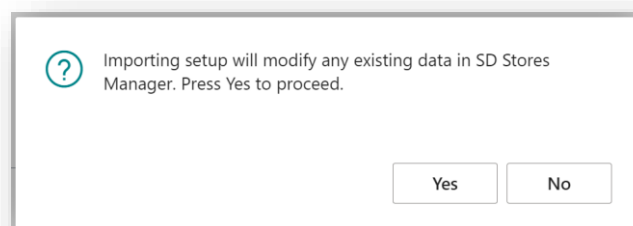

Figure 4-2
2. You are prompted that “Importing setup will modify any existing data in SD Stores Manager. Press Yes to proceed.” Choose **Yes** if this is your first time to use SD Stores Manager and you have not already created any setup in SD Stores Manager (*Figure 4-2*).